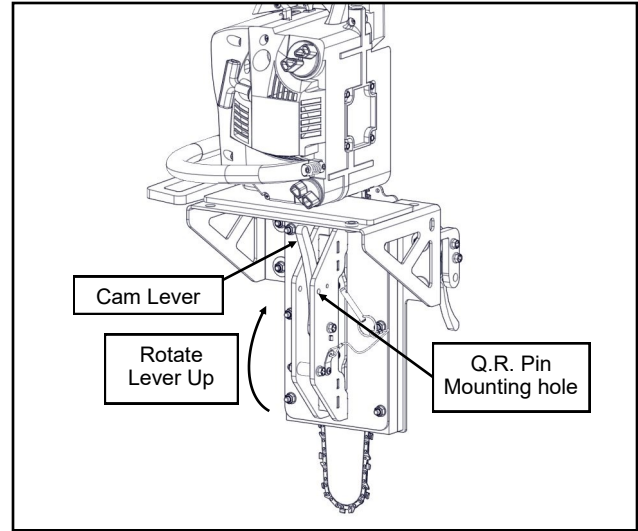

Fig. 6 (installing chainsaw, rotate cam lever up)
4. Per fig. 6, rotate the cam lever up. Ensure the handle rotates beyond the quick release pin mounting holes.